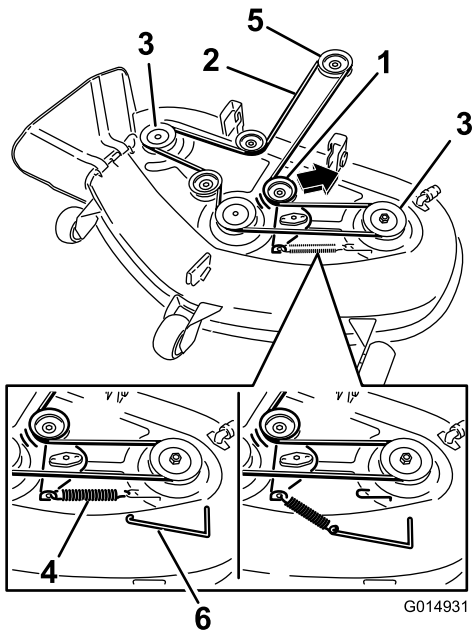

**Figure 53**
5. Using a spring-removal tool, (Toro Part No. 92-5771), remove the idler spring from the deck hook to remove tension on the idler pulley, and roll the belt off the pulleys (Figure 53 and Figure 54).
7. Using a spring-removal tool, install the idler spring over the deck hook, and place tension on the idler pulley and mower belt (Figure 53 and Figure 54).